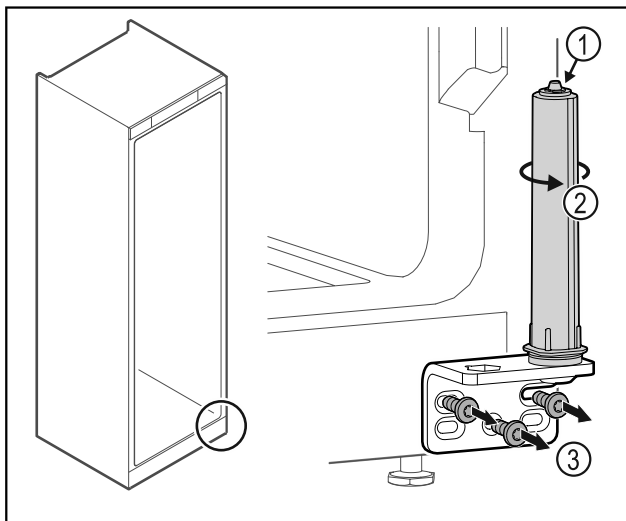

Fig. 41
- Do not disassemble the door closing system *Fig. 41 (1)*.
- Turn the closing system *Fig. 41 (2)* until it clicks.
- Unscrew the hinge *Fig. 41 (3)*.